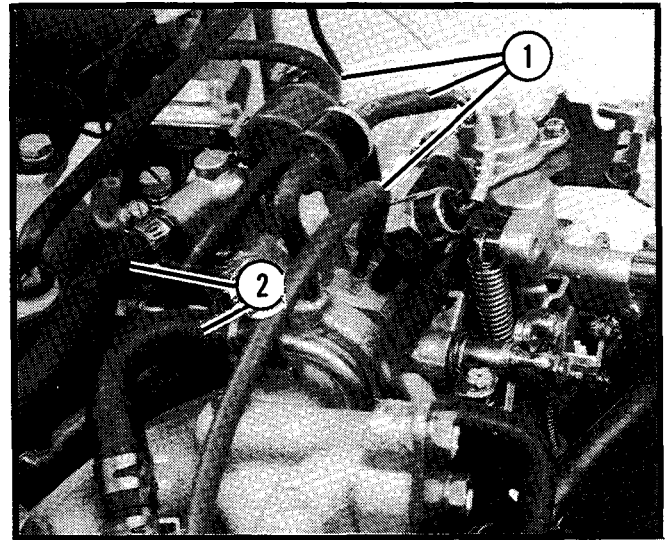

Figure 32.
4. Connect vacuum hoses (2), and water lines (2) at carburetor. See Figure 32.